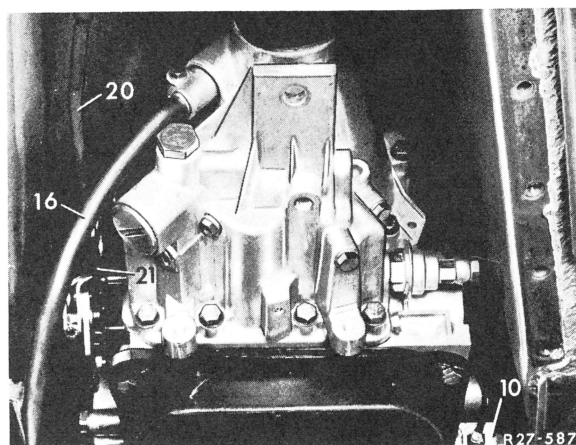

Fig. 2
- 3 Loosen tachometer shaft (16) on rear transmission cover and pull off (Fig. 2).
- 4 Disconnect selector rod (20) on range selector lever (21) and move range selector lever to position "P" (Fig. 2).